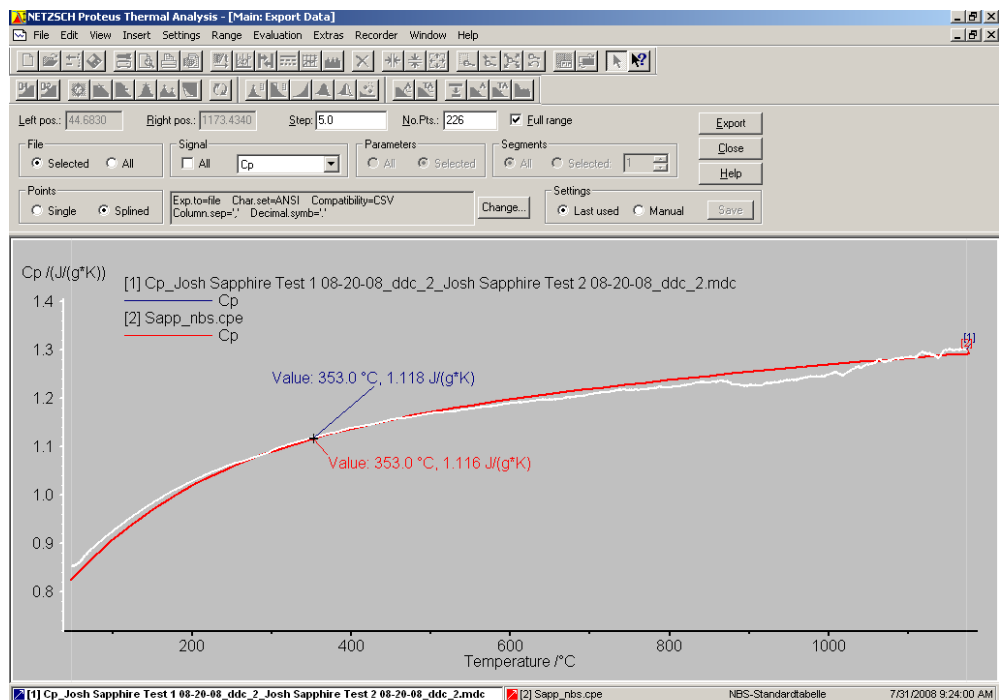

Figure 16. Data export options screen with material standard data curve shown and experimental curve highlighted.
Step 29: To export data, highlight the desired curve and select “Extras” from the toolbar. Choose “Export To File” from the drop down menu and choose appropriate export options such as data range, export file type, etc. as shown in Figure 16.